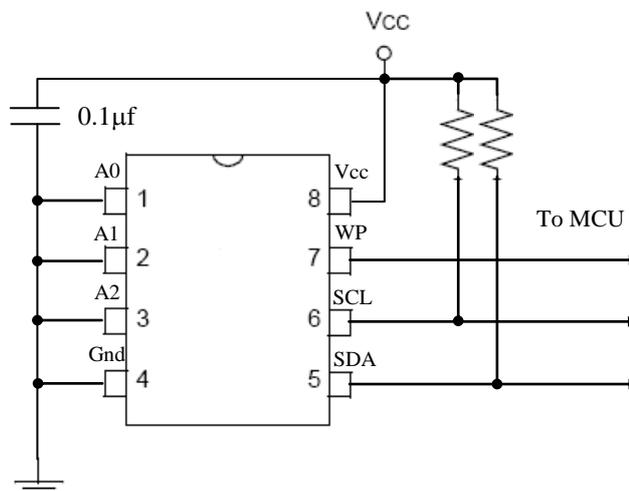

Figure 1: GIANTEC GT34C02 EEPROM recommended connections
In order to filter out small ripples on VCC, connect a decoupling capacitor (typically 0.1 $\mu$ f) between VCC and GND is recommended (Shown in figure 1). In addition, it is recommended to tie the pull-up resistor to the same VCC power source as EEPROM, if MCU is powered by a different VCC power source.
- 1) If there is only one EEPROM on I2C bus, the recommended connection is shown in figure 1. If WP needs not to be controlled by MCU, the WP pin can be tied to GND (hardware protection disabled) or VCC (hardware protection enabled).